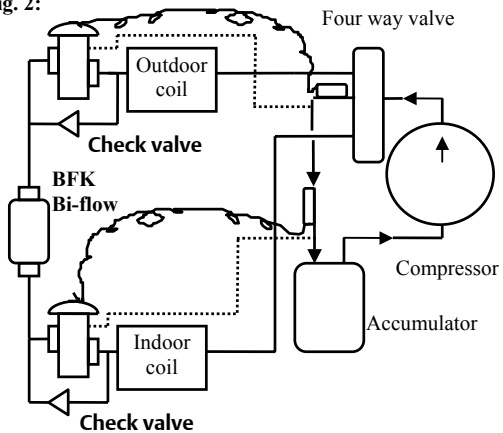

Fig. 1:
see Fig. 1
**Installation (Fig. 1, 2, 3, 4)**
3. Install line connections to valve. Wrap wet cloths around the valve to prevent valve damage while brazing. Direct torch away from valve (max. temp. see Fig. 1).